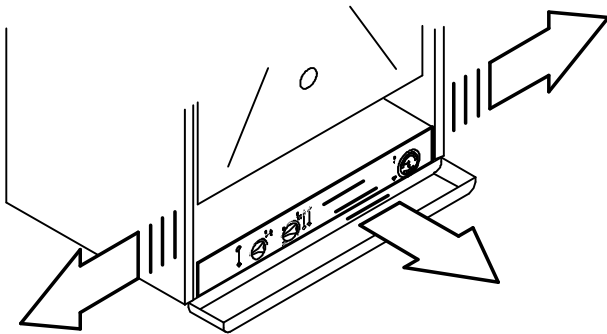

fig. 6.11
- 4 Remove the side panels or move the lower part of the side panels as indicated in fig. 6.11 and pull the control panel. When completely pulled out, the panel can rotate 45° downwards to facilitate the operations on the internal parts.